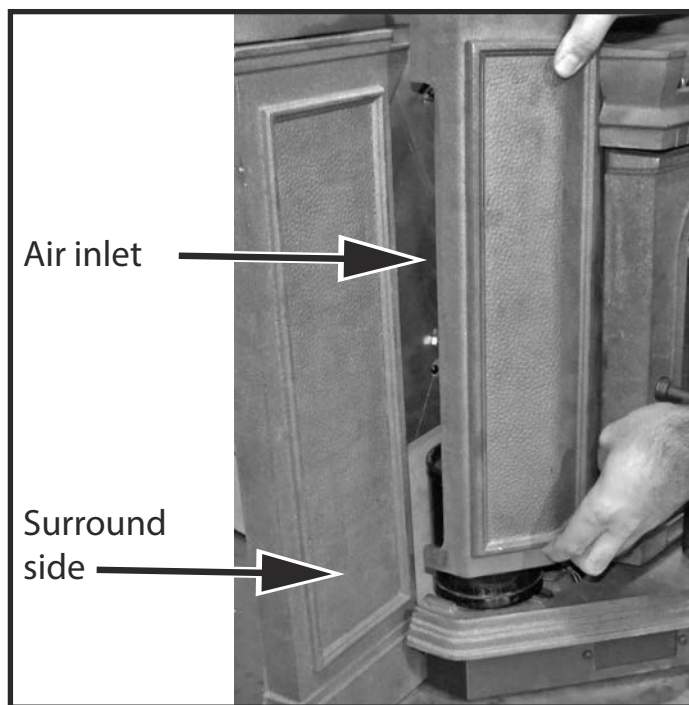

Figure 16: Installing fan shield.
7. Install fan shield as shown in Figure 16. Be sure to place the air inlet opening against the surround side.